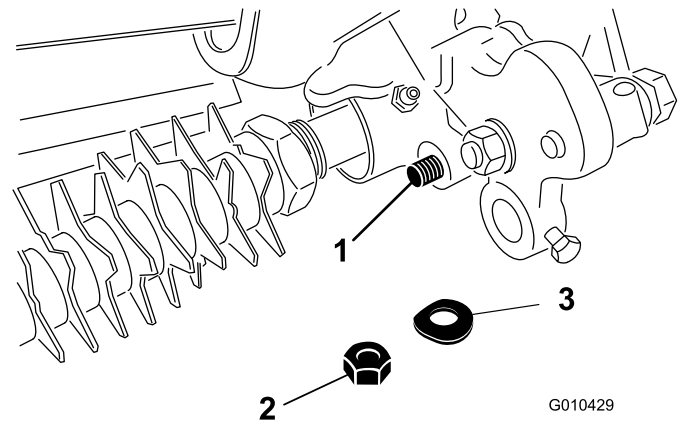

Figure 15
8. Secure the end of adjuster-arm-assembly rod to the groomer-drive assembly with a spring washer and locknut (3/8 inch) as shown in Figure 15.
13. Secure the adjuster-arm assembly rod end to the groomer-drive assembly with a spring washer and locknut (3/8 inch) as shown in Figure 15.